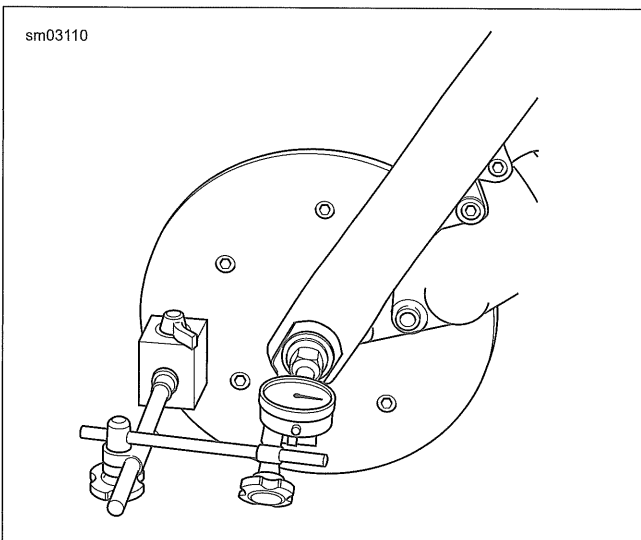

Figure 3-21. Measuring Lateral End Play (Front Wheel) (Typical)
- a. See Figure 3-21. Mount a magnetic base dial indicator to the brake disc. Set the indicator contact point on the end of the axle.